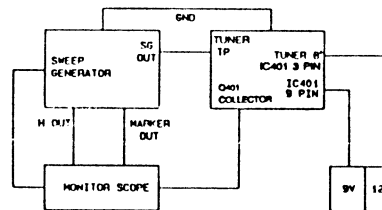

Fig. 11 Composition for TRAP Adjustment
3. Connect the sweep generator output to tuner TP within the tuner unit. (Fig. 11)